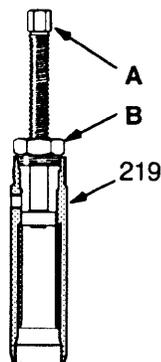

Fig 26
7. Screw the large nut (B) of the tool into the top of the cylinder (219). Screw down the rod (A) to push the sleeve out. Remove the tool. See Fig 26.